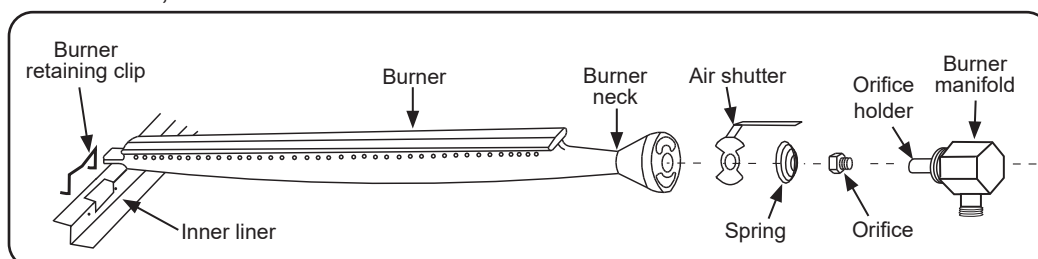

Fig. 36-4 Burner components diagram
3. Locate and remove the burner retaining clip from the left end of the burner using a flat head screwdriver (see Fig. 36-4).
- a. Install the air shutter spring, then the air shutter over the orifice holder fitting in the order and position as shown in Fig. 36-4.